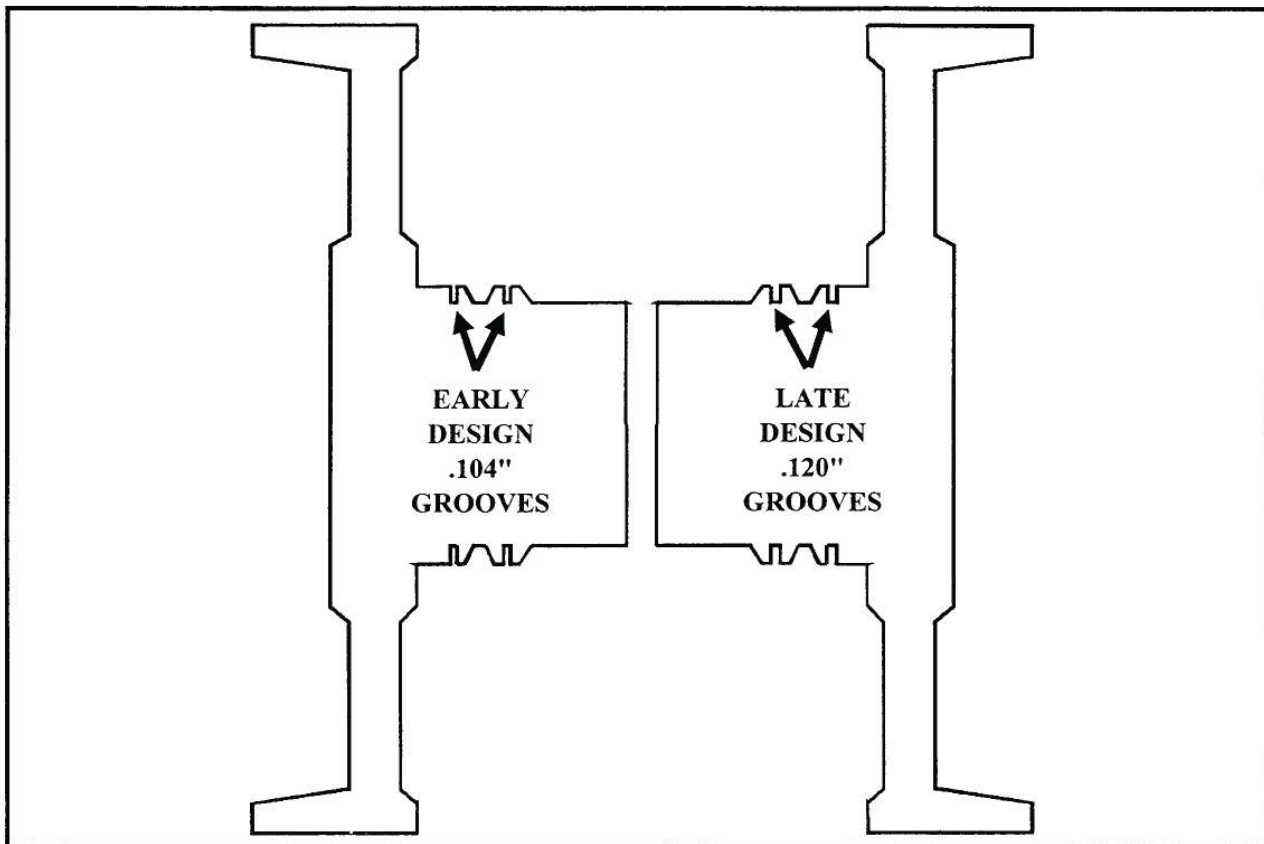

Figure 29
- (1) CENTER SUPPORT - The sealing ring grooves were widened from .104" to .120" (See Figure 29).
- (2) SEALING RINGS - The sealing rings were widened to fit the larger ring grooves.